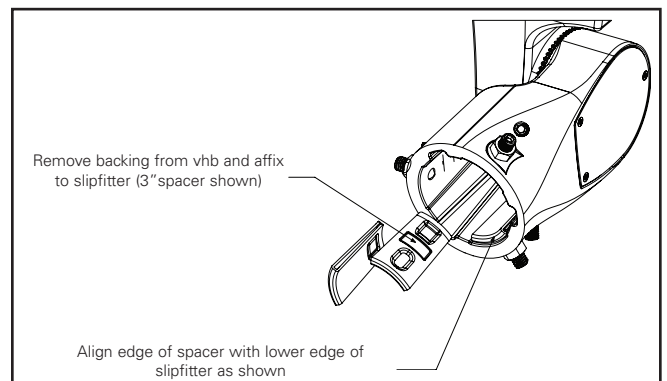

Figure 13.
- Loosen (3) #8 screws to remove the access cover from the slipfitter arm. Set aside.
- Remove the protective plug on the lower side of the slipfitter arm and discard. Install the appropriate spacer size for your tenon as shown in Figure 13.
- Once fixture is in position, hand-tighten the (3) angled set screws to secure in place. Hand-tighten the lower (3) set screws, then tighten the upper angled set screws to 20 ft-lbs. Install (3) hex nuts to the lower set screws and tighten both the (3) set screws and (3) nuts to 20 ft-lbs.
- If necessary, loosen the (2) 3/8"-16 angle adjustment bolts located near the center wire way to make vertical angle adjustments to the fixture. The fixture can be adjusted from -10 deg to 80 deg from horizontal. Tighten to 20 ft-lbs.
- Replace the access cover, and tighten the (3) #8 screws to 14 in-lbs.